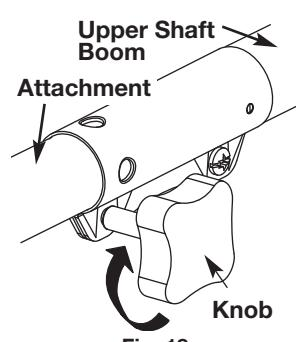

Fig. 18
- Turn the knob clockwise to lock the coupler (Fig. 18).
- While firmly holding the upper shaft boom (Fig. 18), pull the attachment out of the coupler.